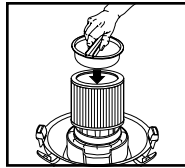

FIGURE 15
21. Place filter retainer into the top of the cartridge filter. **FIGURE 15.**